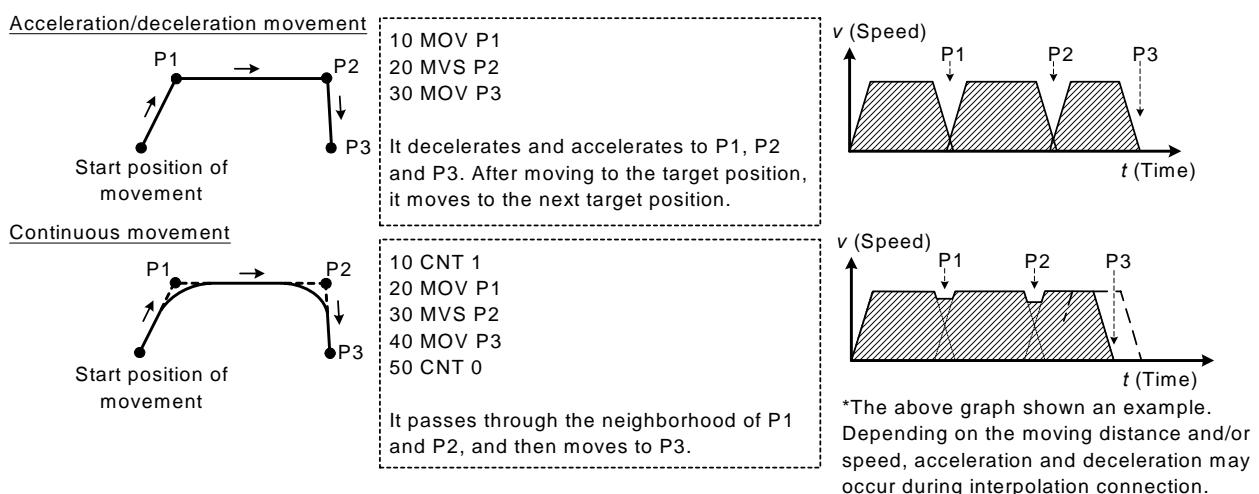

Fig.4-7:Acceleration/deceleration movement and continuous movement
- (1) The interpolation (40 step to 80 step of the example) surrounded by Cnt 1 - Cnt 0 is set as the target of continuous action.
- (2) The system default value is Cnt 0 (Acceleration/deceleration movement).
- (3) If values 1 and 2 are omitted, the connection with the next path segment is started from the time the deceleration is started.
- (4) As shown in Fig. 4-7, in the acceleration and deceleration operating mode, the speed is reduced in front of the target position. After moving to the target position, the speed for moving to the next target position starts to be accelerated. On the other hand, in the continuous operating mode, the speed is reduced in front of the target position, but it does not stop completely. The speed for moving to the next target position starts to be accelerated at that point. Therefore, it does not pass through each target position, but it passes through the neighborhood position.